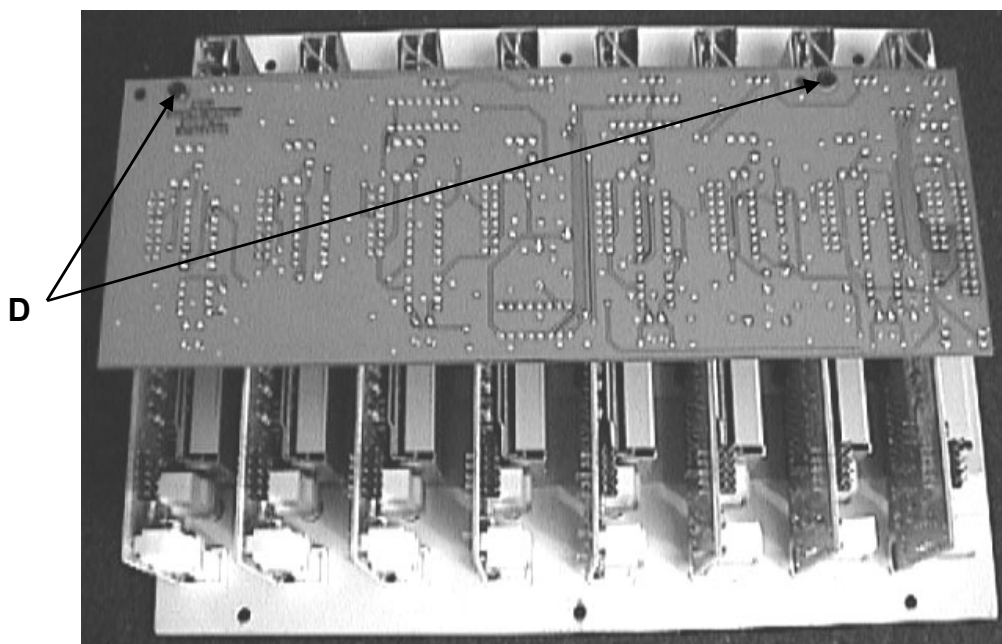

fig.2
- 3) Flip the fader panel over and remove the 2x 4ABx5/16 Countersunk Pozi Black Screws (**D**) from the **Fader Slave PCB** (see fig.2)